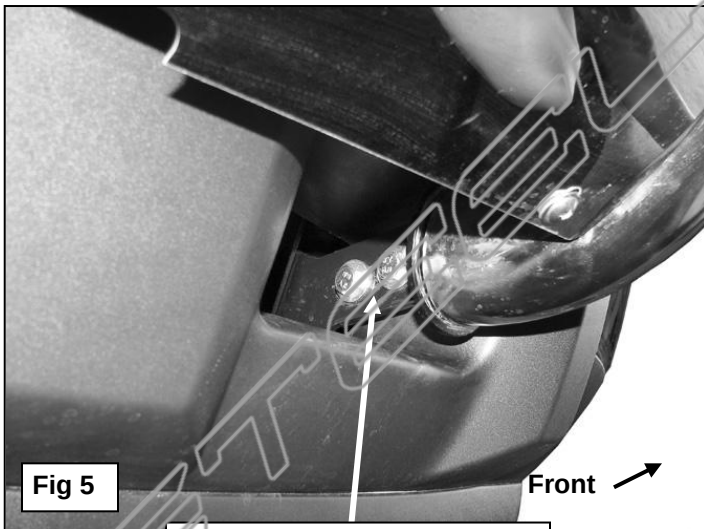

Fig 5
Lock Washers and (4) 10mm Flat Washers, **(Figure 5)**. **NOTE:** Do not tighten hardware at this time.